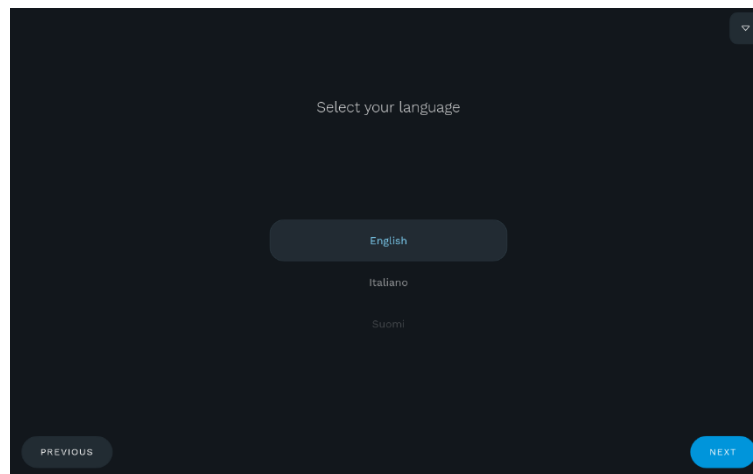

Fig. 17 - Language selection
4. Set the language. A language is suggested according to the selected country (Fig. 17).